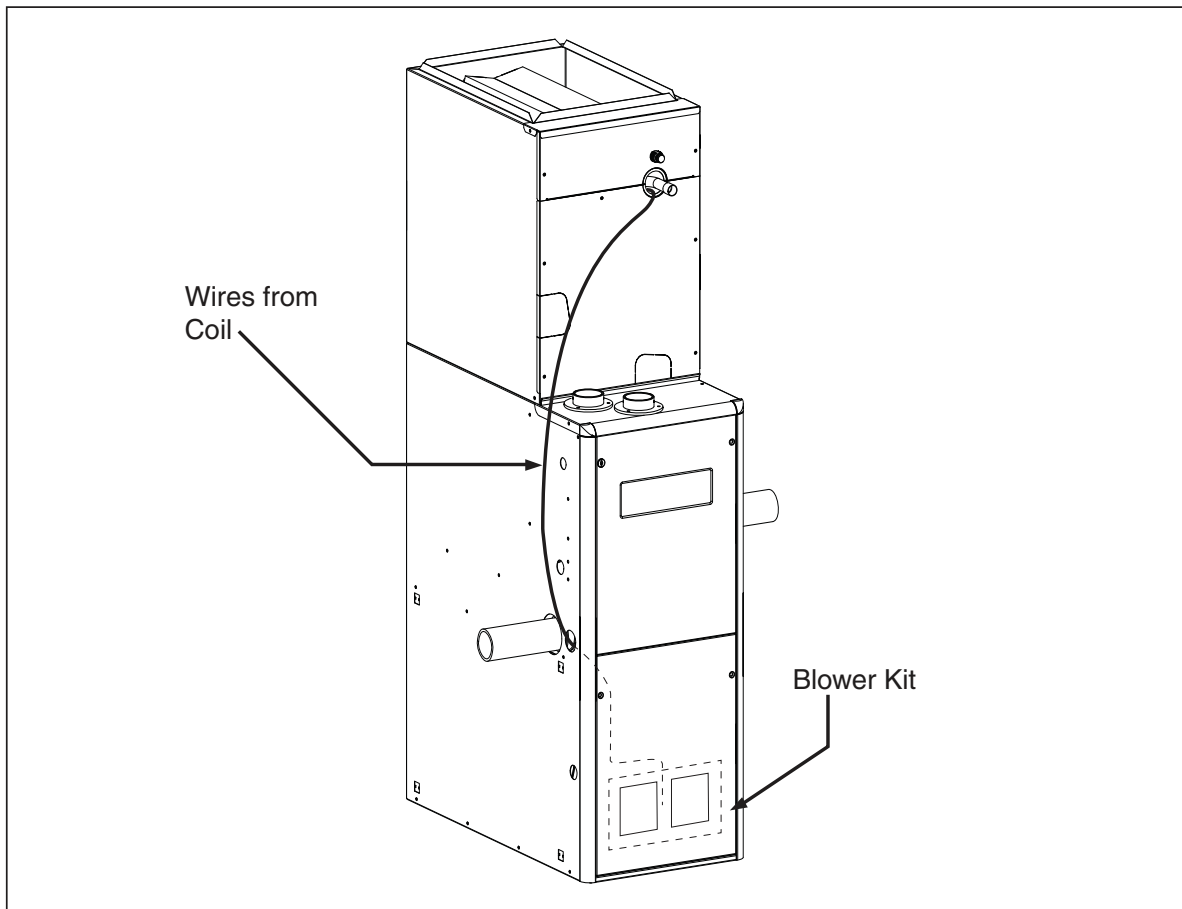

Figure 2. Upflow Furnace Application
3. Remove the drain pan provided for horizontal application. Install the coil and level it as needed to ensure proper condensate drainage. (See Figure 2)